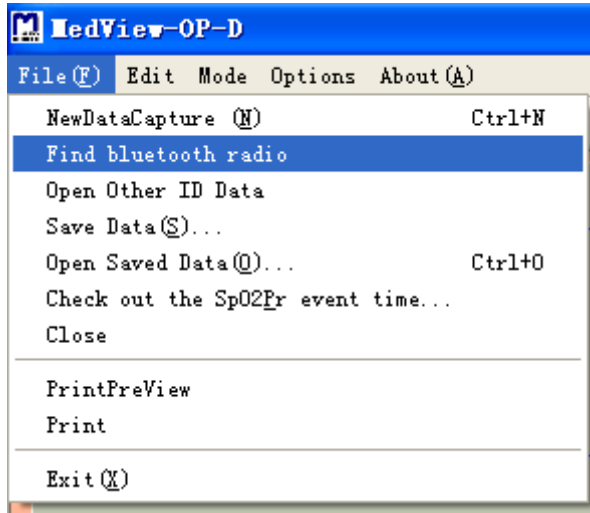
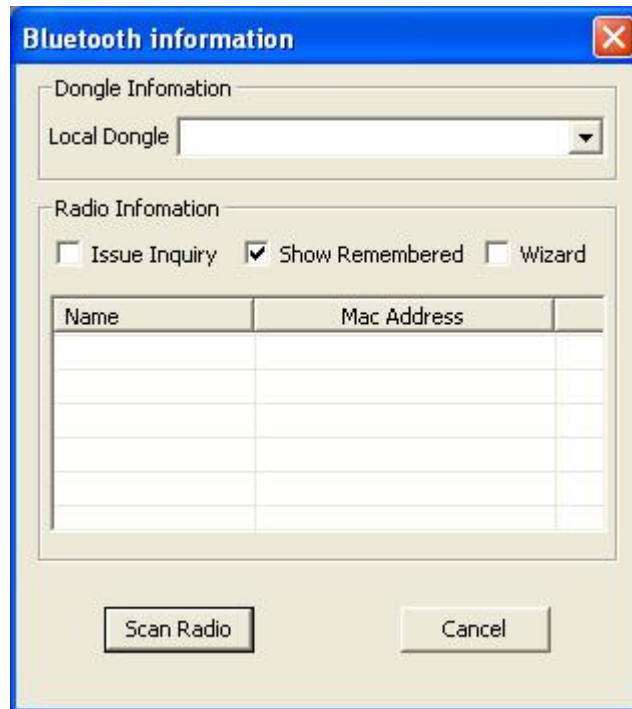
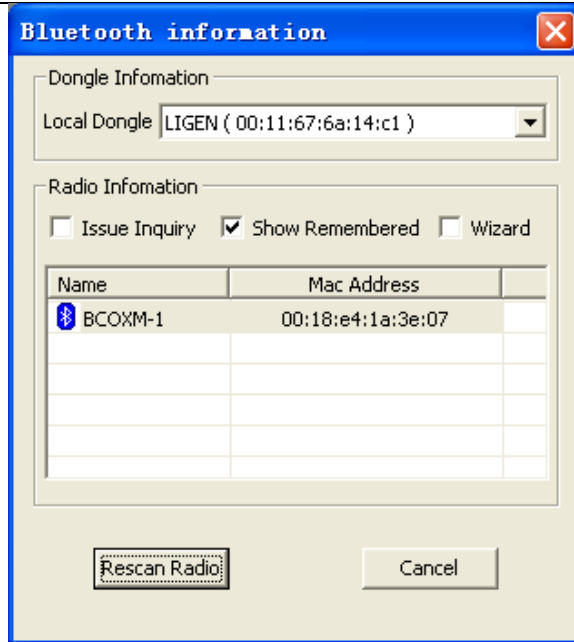

Figure 3-16
Figure 3-17
Figure 3-18
3.4.1 Click “Find Bluetooth® radio” from “File(F)” drop-down menu items as shown in Figure 3-16. The Bluetooth Information window appears, refer to Fig.3-17.
(1). Select “Show Remembered” in the interface as shown in Figure 3-17, then click “Scan Radio” or “Rescan Radio”, as shown in Figure 3-18.